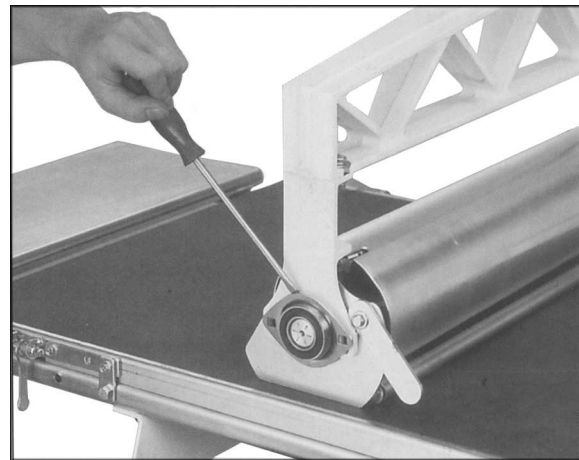

Figure 41
3. *Outboard:* Remove the two knobs and washers that are holding the bearing in place. Loosen the two set screws in the bearing collar and slide the bearing off the end of the drum (Figure 41).